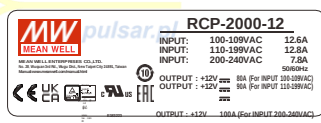

Figure1-1 Safety labels of RCP-2000
- ⊗Please refer to the safety label on top of each unit before operating (Figure 1-1~1-3).